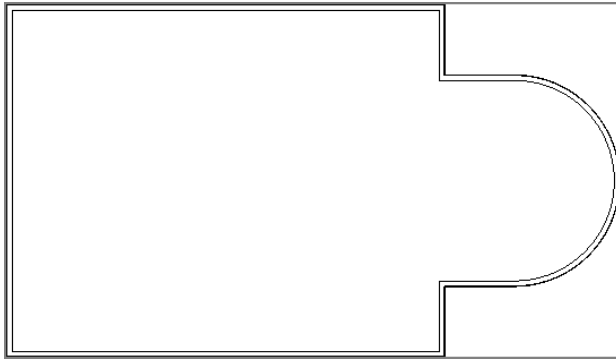

FIGURE 1.30: The completed exterior walls should look like this illustration.
11. When you see the tangent snap icon, choose the third point. Your walls should look like Figure 1.30.